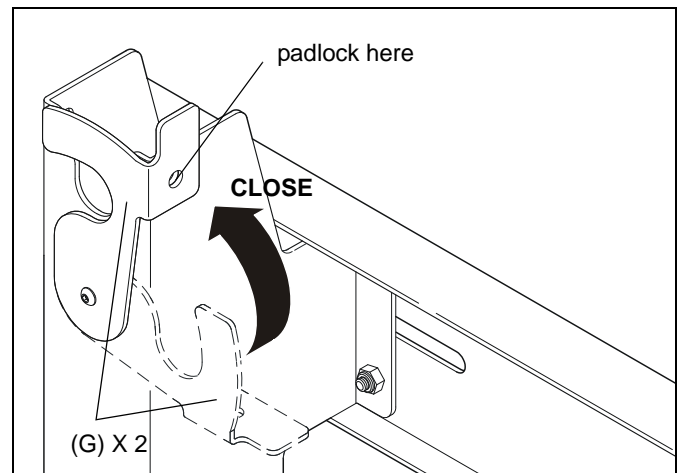

Figure 8
7. Move locking flags (G) to CLOSED position and lock if desired. (See Figure 8)